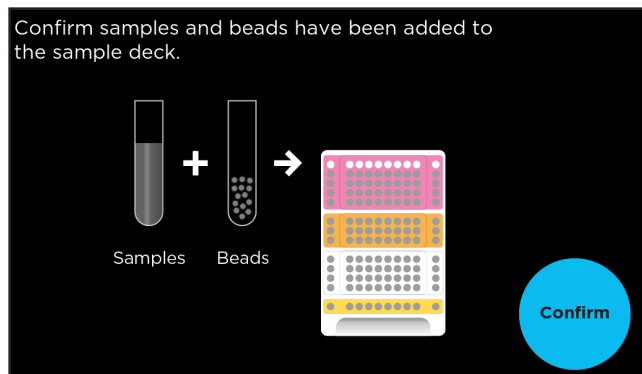

Figure 9. Sample confirmation.
4. Insert the reagent cartridge, followed by the sample deck (without the sample deck stand) into the MagicPrep NGS instrument according to the prompt (Figure 9). Insert the sample deck and the reagent cartridge completely until the part ‘clicks’ in place and the images disappear from the screen. Close the door.